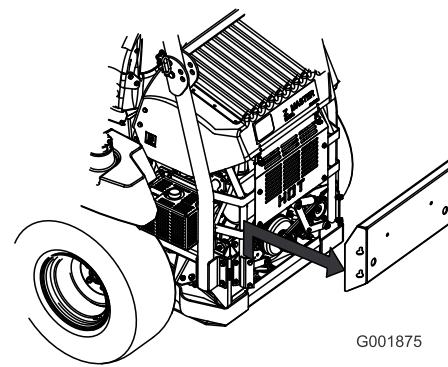

Figure 65
3. Remove the rear engine panel (Figure 65).